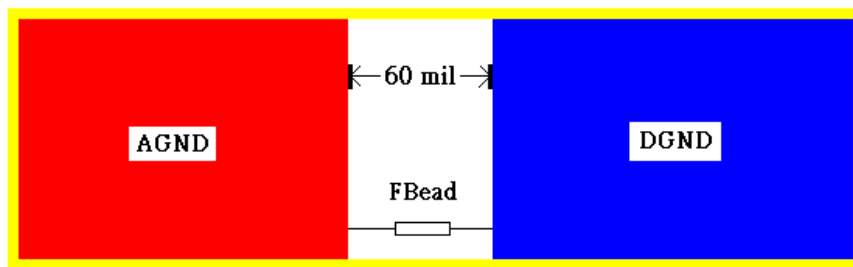

Fig.2 AGND and DGND
6. Be tied together power plane at one point through a low-impedance bridge or preferably through a ferrite bead as Figure 2.